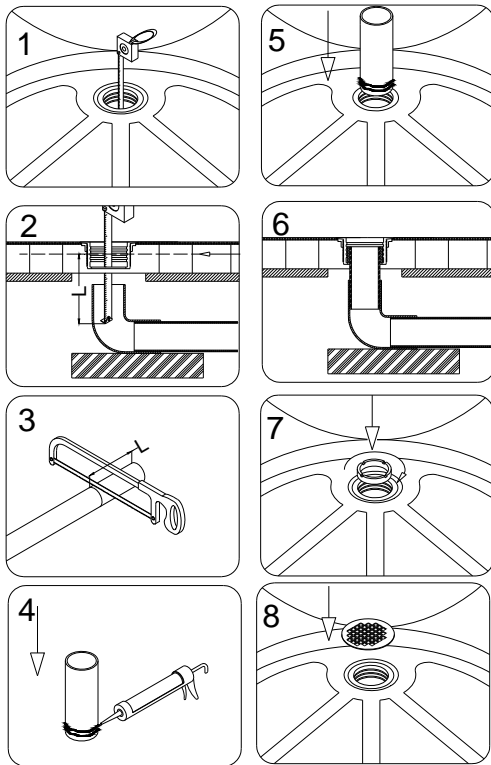
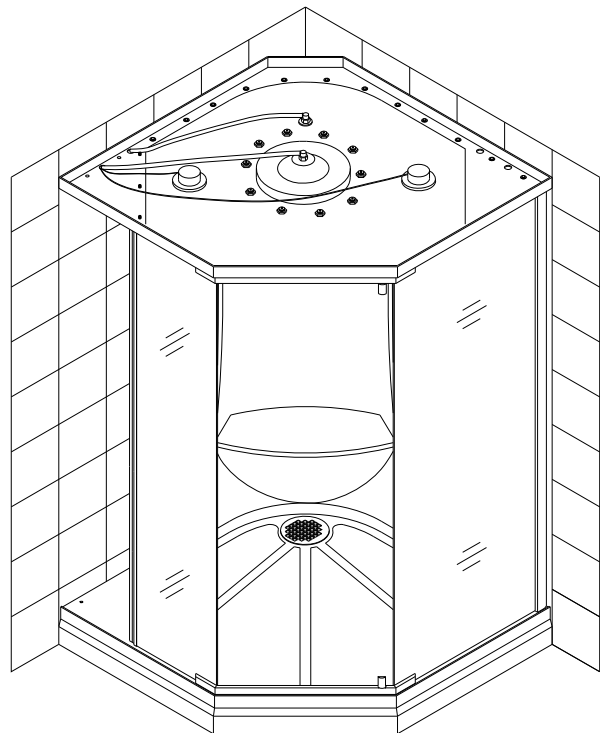

Fig 19
Fig 20
17. Measure the distance from straight part of the elbow or bushing to the top of the drain less 1/2". See Fig 19/1 and Fig 19/2. Cut piece of the 2" PVC pipe according the measurements. See Fig 19/2 and Fig 19/3. Clean PVC pipe and elbow according the PVC glue manufactory instructions. Apply the PVC glue to the elbow and PVC pipe and push pipe down into elbow. Hold it for 45 sec to 1 min to glue it together. Fig 19/4, 19/5, 19/6.
18. After the glue had been dried finish the assembling of the drain according with drain manufactory instruction. Fig 19/7, 19/8, Fig 20.